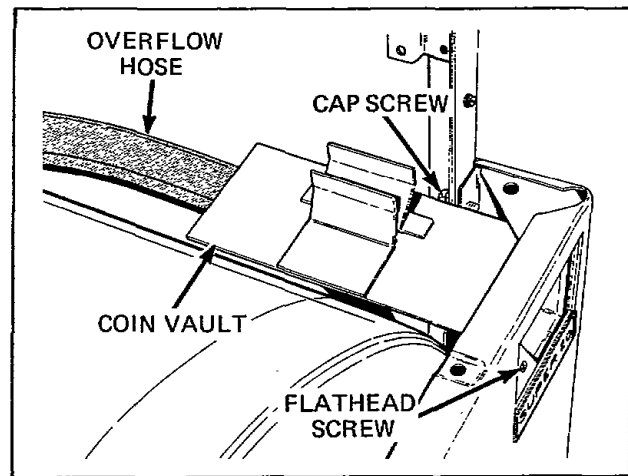

Figure 13
- e. Remove flathead screw and locknut, *Figure 13*, holding coin vault to front panel.
- f. Remove two cap screws and lockwasher holding coin vault to right leg, *Figure 13*.
NOTE: On pump models overflow hose, *Figure 13*, may have to be pushed down to gain access to cap screw holding top of front panel assembly to right leg.